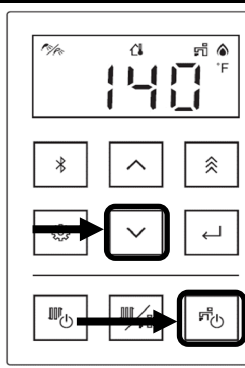

Fig. 1. "Down" and "DHW" Buttons
- Press and hold the (Down) button for two seconds (Fig. 1).
- While holding the (Down) button, press and hold the "Domestic Hot Water" (DHW) button (hold both buttons at the same time) (Fig. 1).